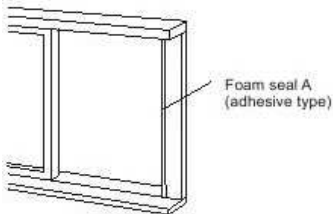

Fig.9
1. Trim foam seal (adhesive type) to the proper length and attach to window frame. (Fig.9)